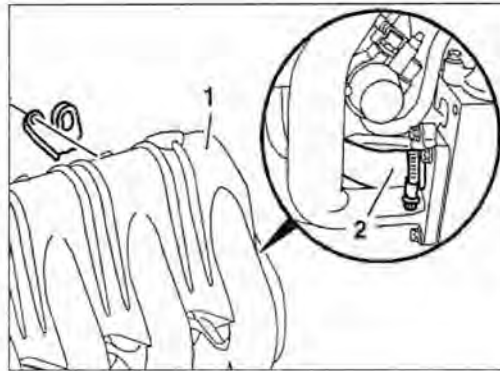

Figure 21
- Loosen hose clamp then detach coolant hose (2, Figure 21) from rear of intake manifold (1) and remove hose with connector (6, Figure 3).